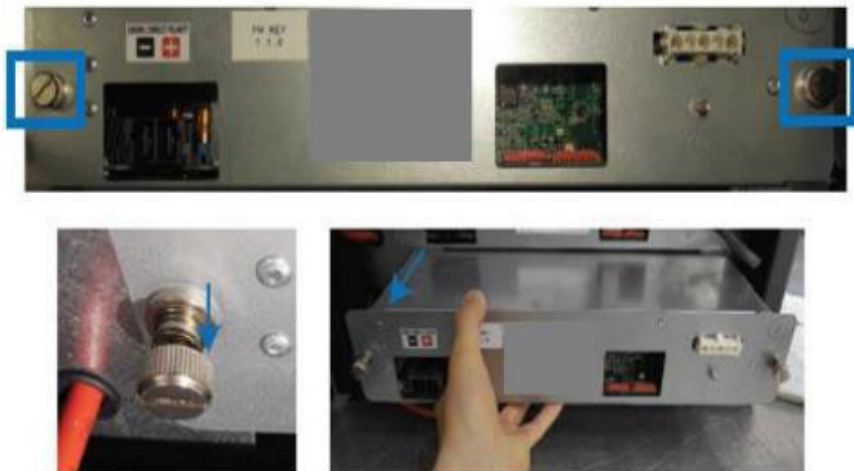

Figure 30 Power Module Removal
9.1.5.1. Using a flathead screwdriver, turn each mounting screw counterclockwise until the spring ejects and releases the screw from the nut. Then carefully pull out the power module. (Figure 30)